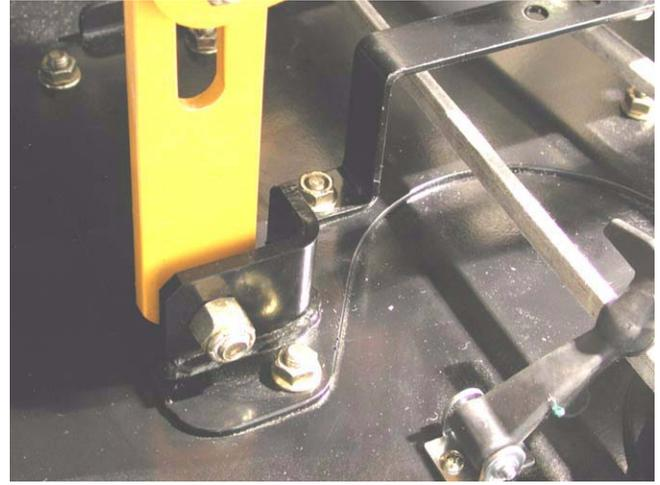

Figure 9.12
9.12. The deck support plates are larger this year, to prevent plate bending and separation. See Figure 9.12.